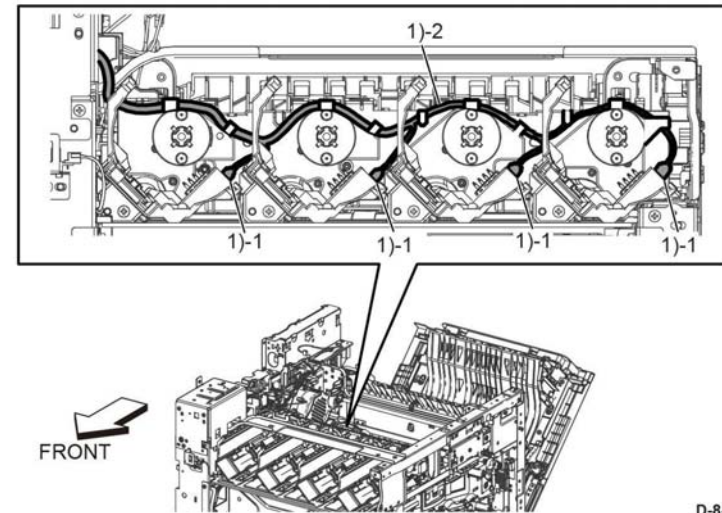

Figure 1 Release the Toner CRUM Harness Assembly
2. Refer to Figure 1 to unplug the four connectors (P/J111, P/J112, P/J113, P/J114) and release the Toner CRUM Harness Assembly.